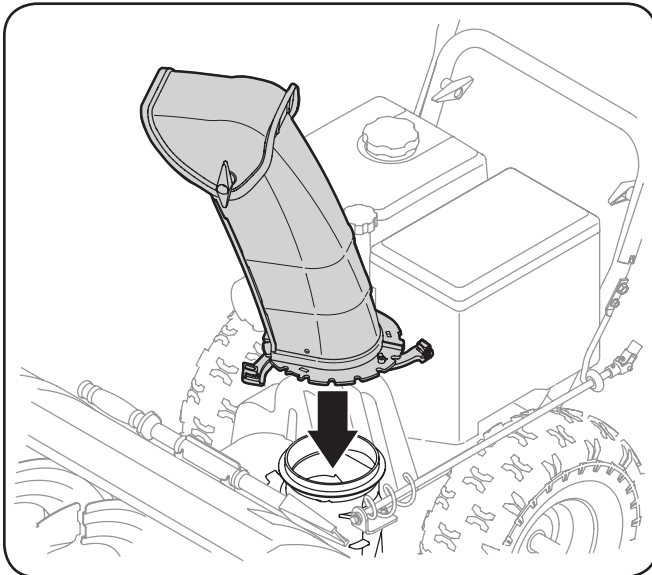

Figure 3-23
1. Position the chute assembly over the base. See Figure 3-23.